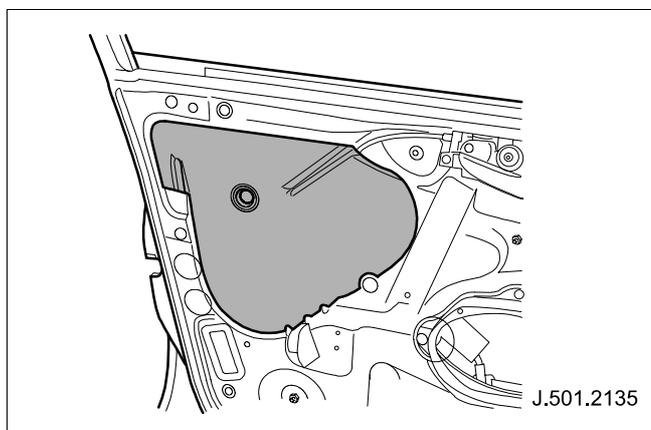

Fig. 6
- 6 Door casing water shedder. (See Fig. 6)